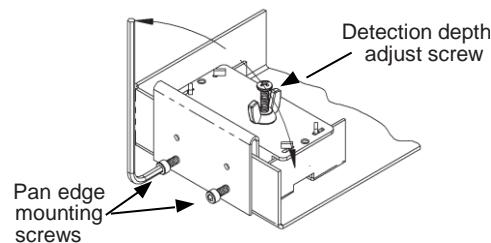

Figure 6: Water Sensor Pan Rim Mounting
- Alternatively, a water sensor or remote water sensor can be attached to the pan edge with two set screws (Figure 6). Do not over tighten or puncture the pan.